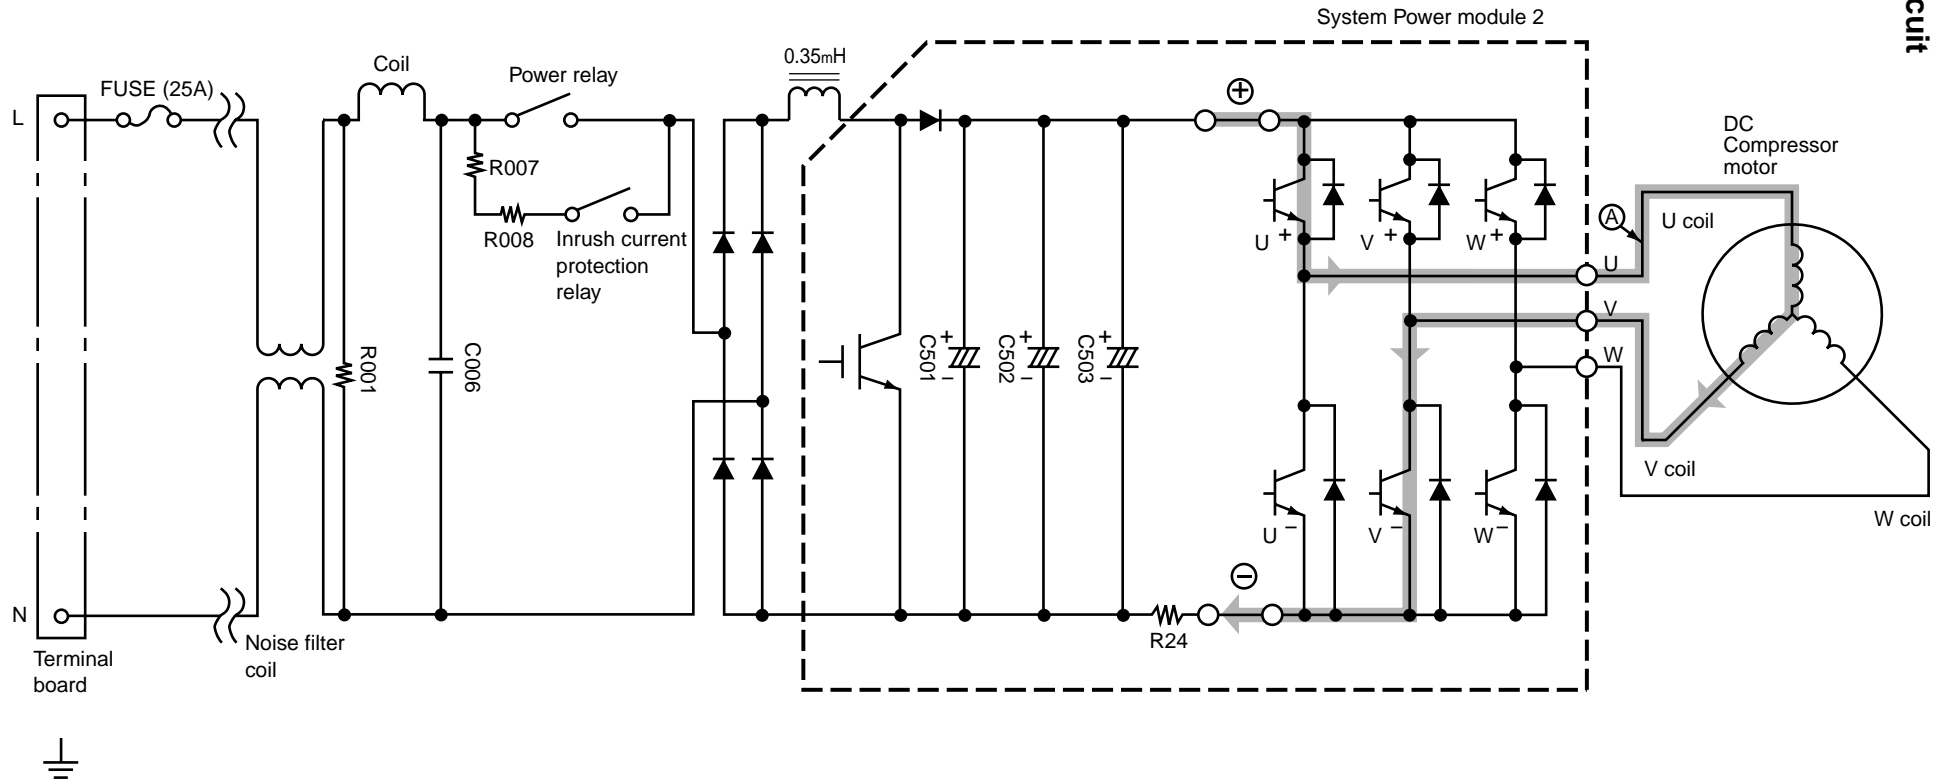
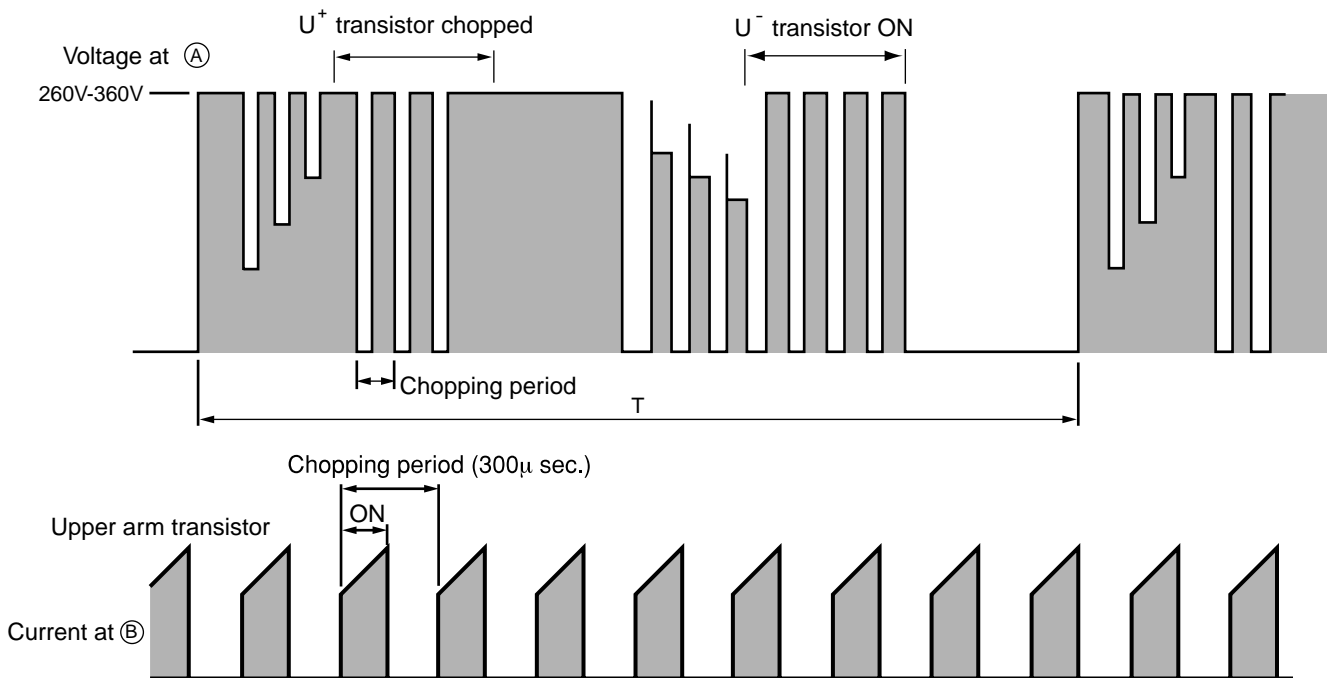

Fig. 3-1 Power module circuit (U^+ is ON, V^- is ON)
Fig. 3-3 Voltage waveform at each point
- Fig. 3-1 shows the system power module and its peripheral circuit. The three transistors on the positive \oplus side are called the upper arm, and the three transistors on the negative \ominus side, the lower arm.
- Fig. 3-3 shows voltage waveform at each point shown in Figs. 3-1 and 3-4. First half of upper arm is chopper, second half is ON, and first half of lower arm is chopper, second half is ON.
- When power is supplied U⁺ → U⁻, because of that U⁺ is chopped, current flows as shown below; (B)
- (1) When U⁺ transistor is ON: U⁺ transistor → U coil → V coil → V⁻ transistor → DC current detection resistor → Point (B) (Fig. 3-1)
- Since current flows at point ② only when U⁺ transistor is ON, the current waveform at point ② becomes intermittent waveform as shown in Fig. 3-3. Since current at point ② is approximately proportional to the input current of the air conditioner, input current is controlled by using DC current (I_d) detection resistor.